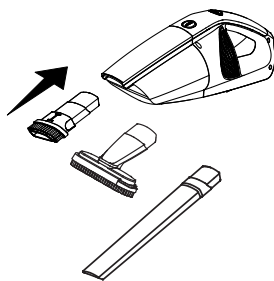

Fig.15
- To clean difficult to reach areas, use the Combination Tool / Long Crevice Tool / Upholstery Brush by inserting end of tool into the handheld vacuum cleaner as shown (Fig.15).